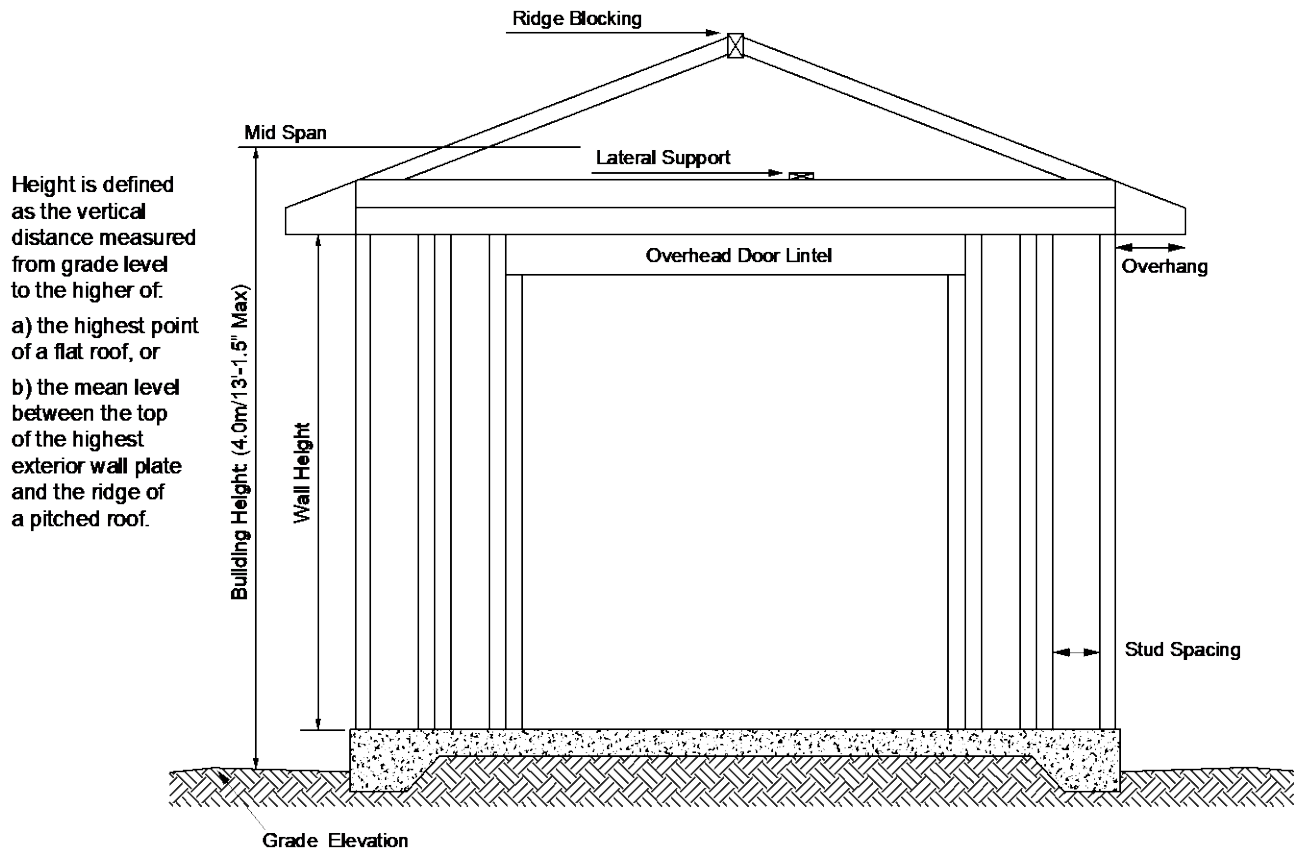

Figure 1 - Sample Garage Cross Section (for applicant reference only)
- Building height (see Figure 1): _____